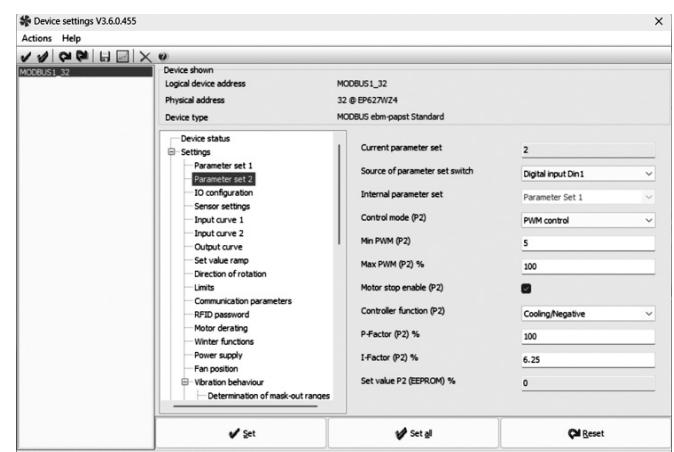

Fig. 23 – EC-Control Parameter Set 2
- Set the following parameters to match Fig. 23. **Current Parameter Set** will not be changeable, this is only to indicate what parameter set the fan is currently in.